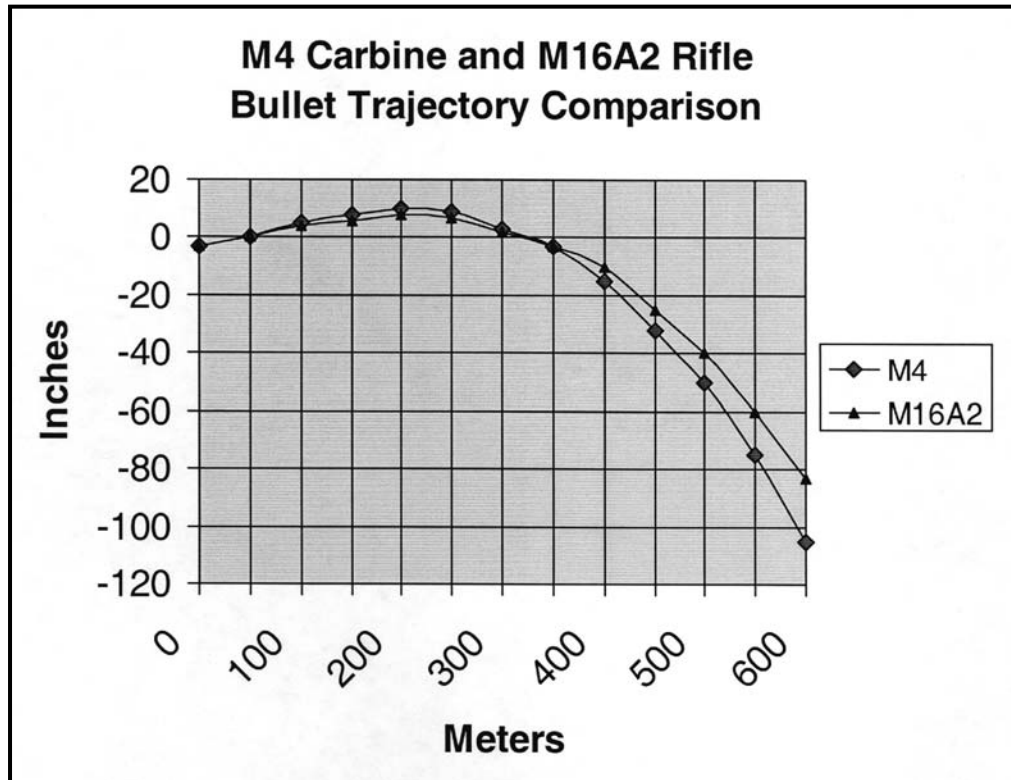

Figure 7-39. Bullet trajectory comparison.
(1) **Elevation.** The SDM uses hold-off to hit a target at ranges other than the range for which the rifle is presently adjusted. When a soldier aims directly at a target at ranges greater than the set range, his bullet will hit below the point of aim. At lesser ranges, his bullet will hit higher than the point of aim. If the SDM understands this and knows about trajectory and bullet drop, he will be able to hit the target at ranges other than that for which the rifle was adjusted. For example, the SDM adjusts the rifle for a target located 500 meters downrange and another target appears at a range of 600 meters. The hold-off would be 25 inches; that is, the SDM should hold off 25 inches above the center of visible mass in order to hit the center of mass of that particular target. If another target were to appear at 400 meters, the SDM would aim 14 inches below the center of visible mass in order to hit the center of mass. The chart in Figure 7-39 shows the projectile’s trajectory when fired from the M16A2 and the M4 carbine. The red line shows the trajectory of the M4 carbine and the blue line shows the trajectory of the M16A2. This demonstrates the drop of the round at various ranges. This diagram will also assist the trainer in teaching vertical hold-off during this phase.